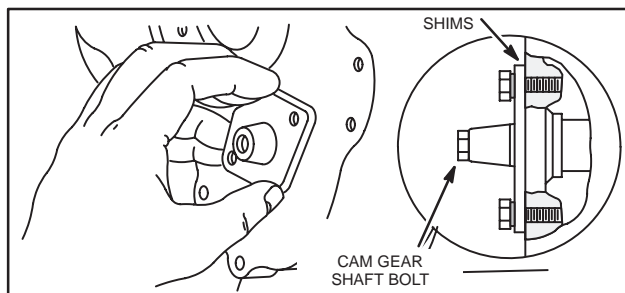

Fig. 886 – INSTALLING CAM GEAR BEARING
6. Install long cam gear bolt 5-1/2" (140.00 mm) finger tight to prevent loss of camshaft, Fig. 886.